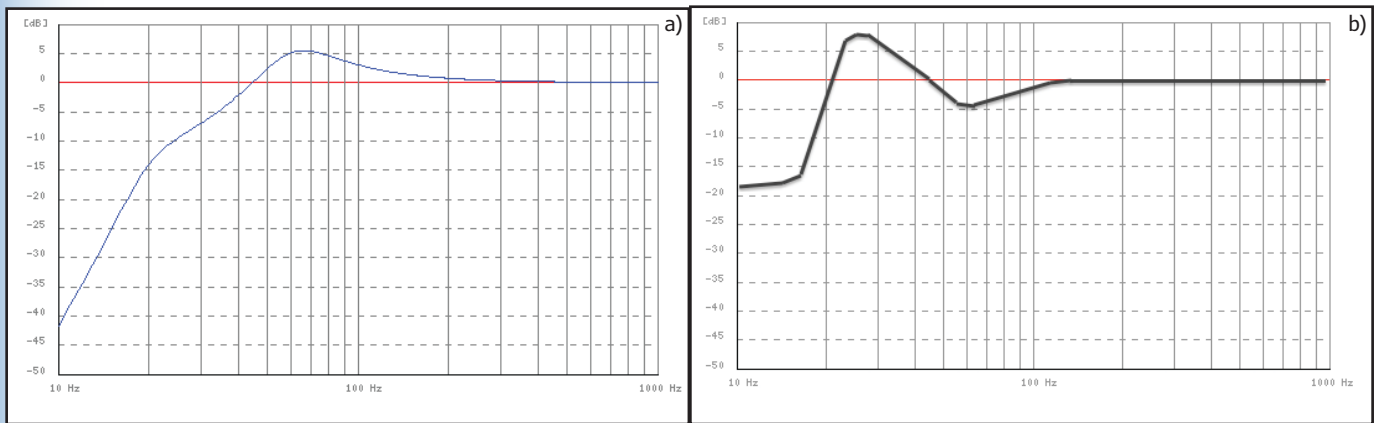

Figure 12: Here EQ is used to boost the response. Response of the speaker (a) and corresponding filter (b).
- Tune the passive radiator to a lower frequency and use EQ to boost response at f_b (for bass extension), plus compensate for a high Q woofer/undersized enclosure. The mid-bass notch relieves the amplifier of some power burden over a narrow band. It also permits drivers and alignments that would have never made any sense for a vented system before DSP (see **Figure 12**).